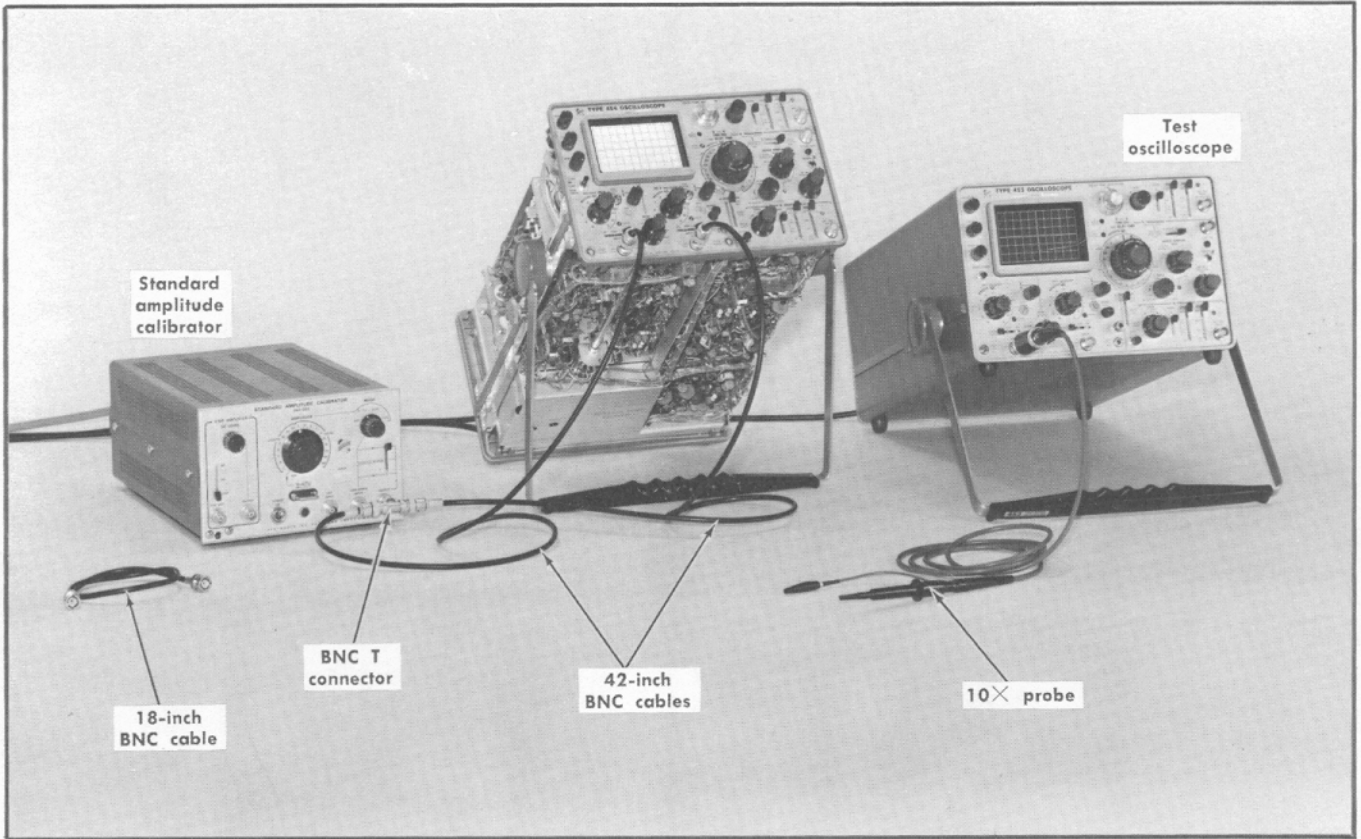

Fig. 6-18. Initial test equipment setup for steps 15 through 23.
- a. Test equipment setup is shown in Fig. 6-18.